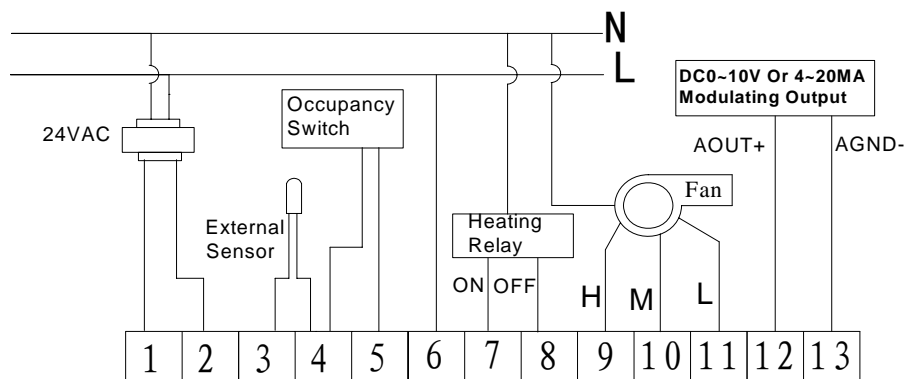
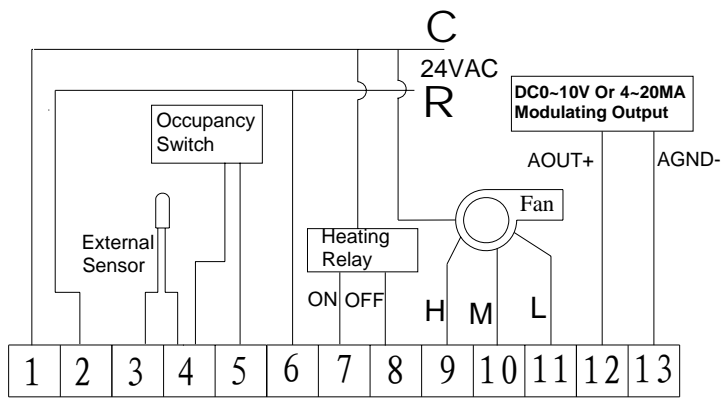

Figure 4
Figure 5
2. Connect wires beneath terminal screws on power supply module using appropriate wiring schematic. See figure 4 or figure 5
5. Replace control panel on the power base and fix power base and control panel by removed two screws in item 1
‘h1: Only proportional output for heating control is available, terminal 12 and 13 (See Figure 4) is used as 0-10V or 4-20mA modulating output to control heating or cooling
OF: Only On/Off output for heating control is available. Terminal 7 and 8 (Figure 4) is the On/Off output to control heating. Terminal 12 and 13 is used as 0-10V or 4-20mA modulating output to control only cooling.
‘h2: 2 stage heating active. Terminal 12 and 13 (See Figure 4) is used as 0-10V or 4-20mA modulating output to control 1st stage heating. Terminal 7 and 8 (Figure 4) is the On/Off output to control 2nd stage heating.